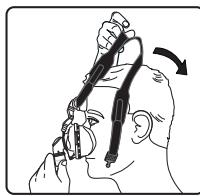

Figure 3
2. Slide the headgear over your head (Figure 3). Reconnect the quick clip after you have the headgear in position.